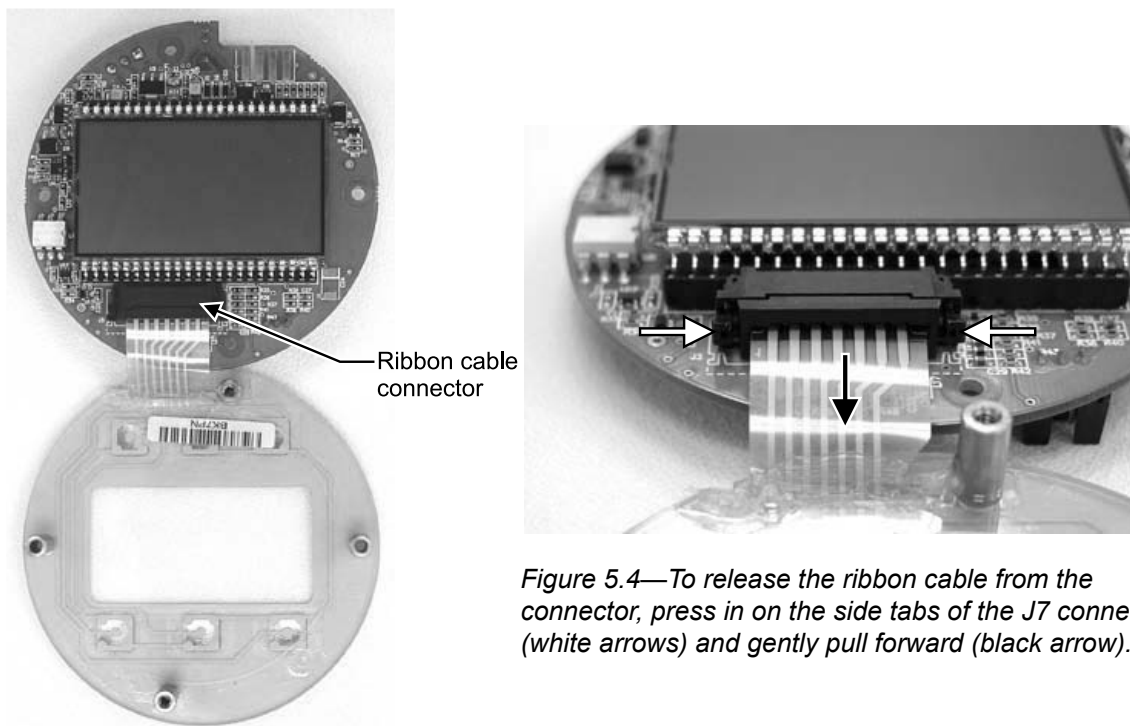

Figure 5.4—To release the ribbon cable from the connector, press in on the side tabs of the J7 connector (white arrows) and gently pull forward (black arrow).
10. Remove the keypad ribbon cable from the J7 connector on the LCD side of the circuit board by pressing in on the sides of the black plastic clip and pulling gently on the clip. Do not pull on the ribbon cable; the cable will release freely when the clip opens (Figure 5.4, page 78).
- a. Grasp the black clip between a thumb and forefinger (Figure 5.4, page 78).